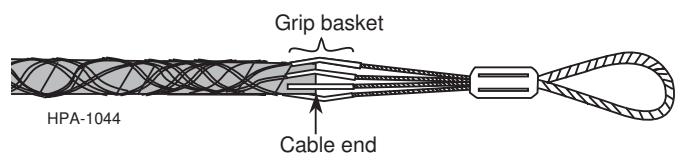

Figure 24
5.15 Walk the grip over the friction tape-covered cable core until the cable end is in the middle of the grip basket (Figure 24).